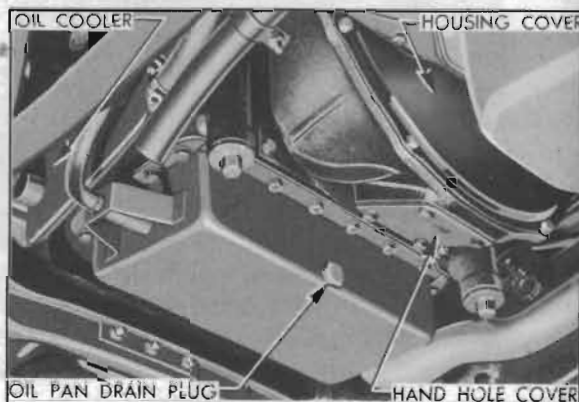

Figure 4-70—Right Side of Dynaflo Transmission Installation
4. Remove bell housing cover and bell housing hand hole cover. See figure 4-70.